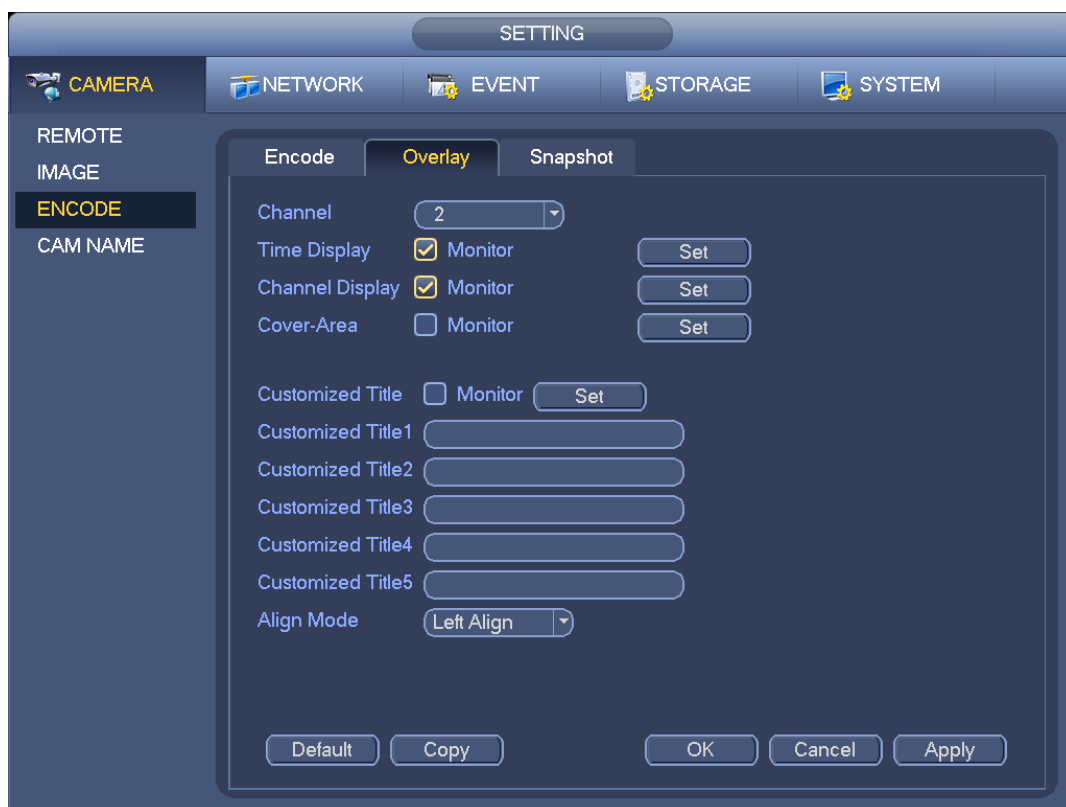
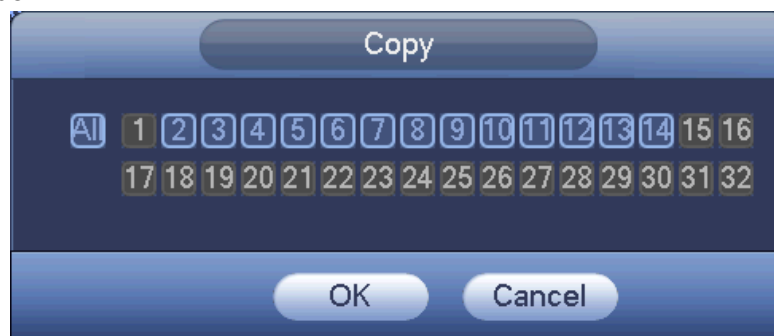

Figure 3-59
Figure 3-65
- Copy: After you complete the setup, you can click Copy button to copy current setup to other channel(s). You can see an interface is shown as in Figure 3-65. You can see current channel number is grey. Please check the number to select the channel or you can check the box ALL. Please click the OK button in Figure 3-65 and Figure 3-59 respectively to complete the setup. Please note, once you check the All box, you set same encode setup for all channels. Audio/video enable box, overlay button and the copy button is shield.
Click overlay button, you can see an interface is shown in Figure 3-59.
Copy function allows you to copy one channel setup to another. After setting in channel 1, click Copy button, you can go to interface Figure 3-65. You can see current channel name is grey such as channel 1. Now you can select the channel you want to paste such as channel 5/6/7. If you want to save current setup of channel 1 to all channels, you can click the first box "ALL". Click the OK button to save current
copy setup. Click the OK button in the Encode interface, the copy function succeeded. Please note, if you select ALL in Figure 3-65, the record setup of all channels are the same and the Copy button becomes hidden.